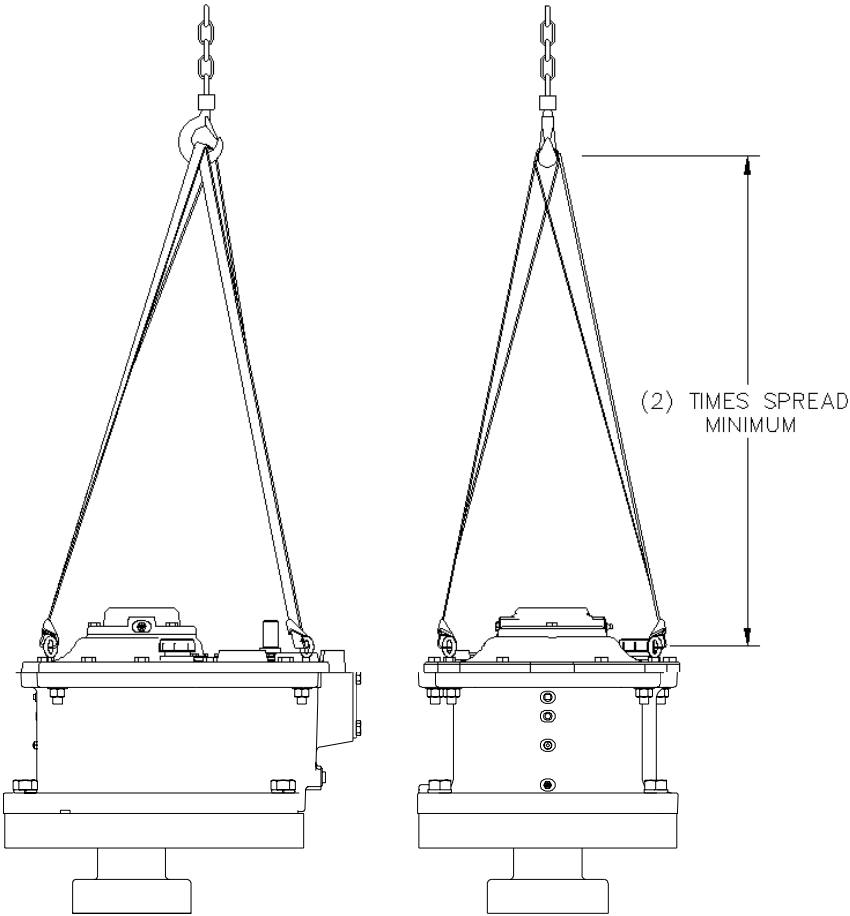

Figure 3. Model 20 Drive Lifting
M20 Agitator Drive Installation. See figures 3, 4, 5, 6, 7, 8, pages 7, 8, 9 and 10.
3. Using a crane or hoist, attach lifting chains to gearcase (*see Figure 3, page 7*).